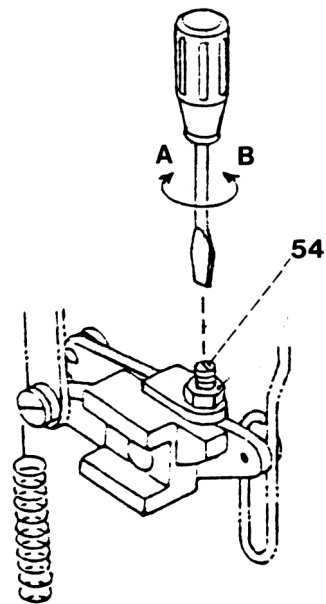

Fig. 16a
- If the fabric is fed forwards, turn screw 54 slightly in direction "A" (fig. 16a).